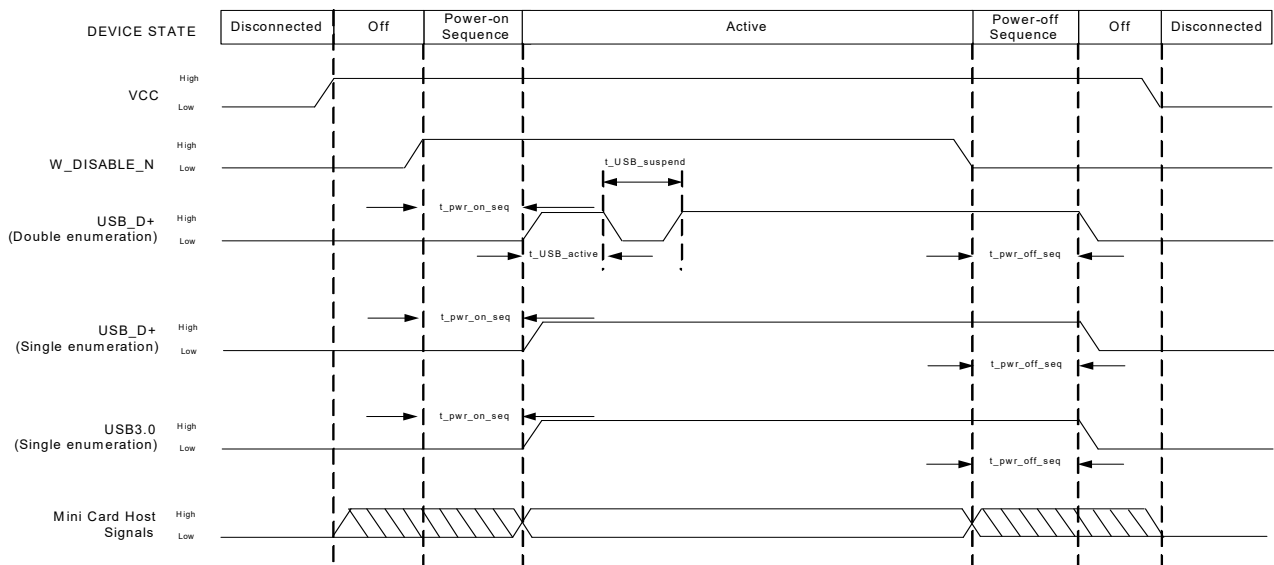

Figure 5-2: Signal Timing (*W_DISABLE_N*, and USB Enumeration)
Figure 5-2 describes the timing sequence for powering the module on and off.
- Double enumeration—As shown in Figure 5-2 on page 48: